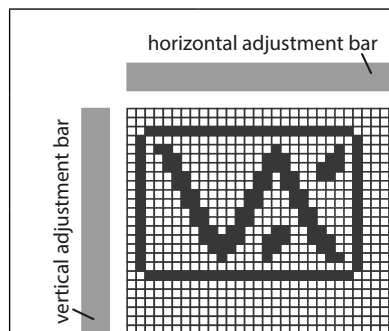

Fig. 84
- Import or create an image (see notes below), as shown in **Fig.84**.
- Next highlight and click on the reverse icon, as shown in **Fig.84**.
- The imported image will appear in the main editing area, **Fig.84**.